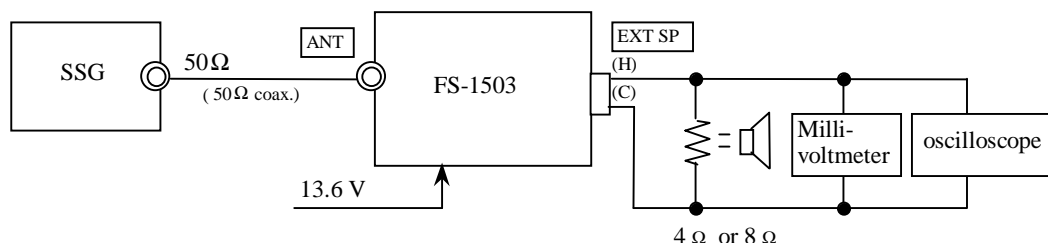

Figure 5-3 Measurement on RX Circuit
1. Make a connection as shown in figure 5-3.